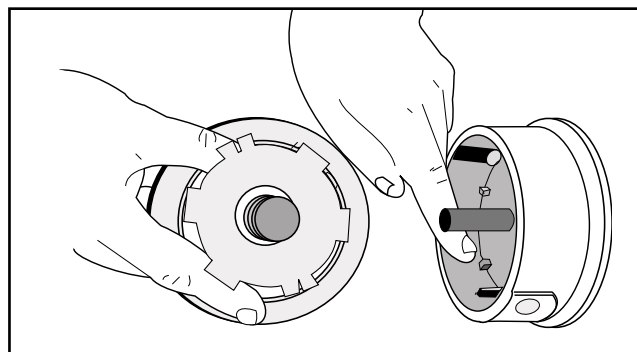

Fig. 29
4. Check the indexing teeth on the inner reel and outer spool for wear (Fig. 29). If necessary, deburr or replace the reel and spool.